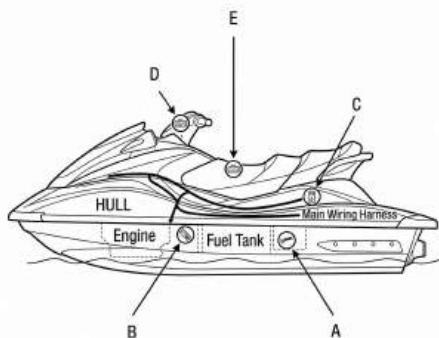

Figure 3-7
2. Locate the vehicle's DLC. On most personal watercraft, the DLC is typically located inside the engine compartment or near the ECU. Figure 3-7 shows the five most common DLC locations on personal watercraft.